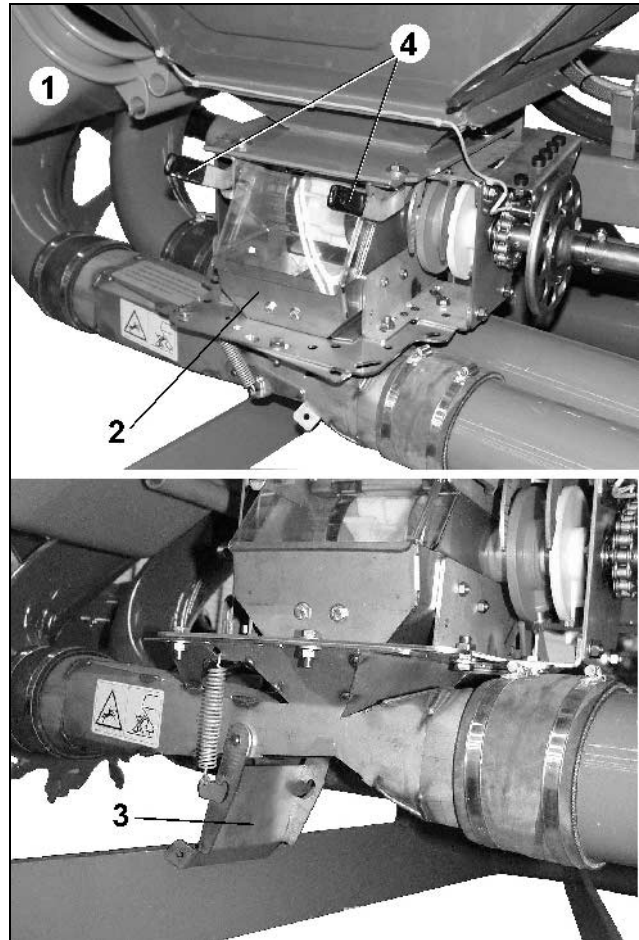

Fig. 102
- For emptying the seed hopper place (Fig. 102/1) calibration buckets below the metering unit(s) (Fig. 102/2).
- Press the lever (Fig. 102/4) downwards and lock. With the lever an outlet in the rear of the metering unit is opened and the seed hopper empties (if necessary close the outlet again in between and empty the collecting bucket).
- Then open the injector sluice flap (Fig. 102/3) to empty the injector.
Danger of squeezing when opening and closing the injector sluice flap (Fig. 102/1).